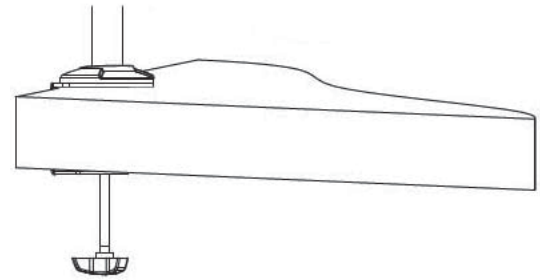

Figure 2
2. Position the Tube Support to the desktop. Loosen the clamp screw according to the thickness of the desktop. Tighten the C-Clamp to the desktop by turning the clamp screw counter clockwise, see Figure 2.